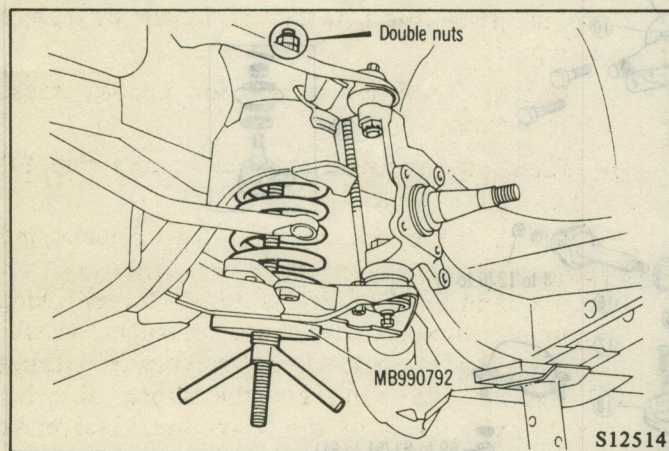

Fig. 19 Compressing Front Spring
(2) Disconnect stabilizer and strut bars from lower arm.
(3) Remove shock absorber.
(4) Using special tool (MB990792), compress the front spring. (Fig. 19)